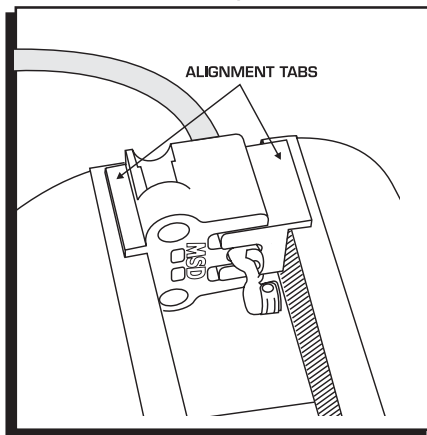

Figure 7 Preparing to Crimp in the Vise.
5. Put the assembly into a vise making sure the alignment tabs are on the outside edge of the vise jaws (Figure 7).